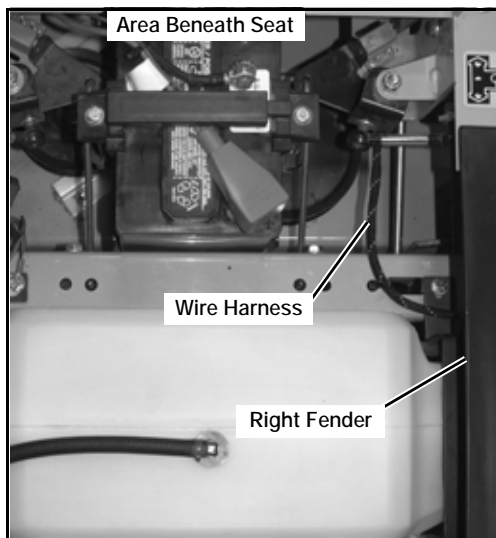

FIG. 3
6. Route the new wire harness from the inside area beneath the seat through the opening in the bottom of the right fender into the instrument panel opening. (FIG. 3)